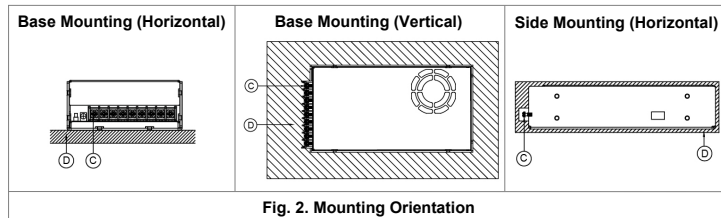
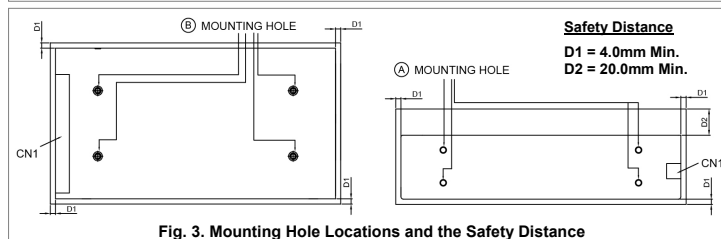

Fig. 2: Mounting Orientation
Fig. 3: Mounting Hole Locations and the Safety Distance
- For safety reasons, please ensure the mounted device is kept at $\geq 4\text{mm}$ safety distance at all sides from other components and equipments. In addition, to ensure sufficient convection cooling, always maintain a distance of $\geq 20\text{mm}$ from fan ventilated surfaces while the device is in operation. Please insert an insulation sheet between the system and product, if the safety distance is $< 4\text{mm}$ (Refer to Fig. 3).
- ① Input & Output terminal block connector
- ② DC voltage adjustment potentiometer
- ③ DC OK control LED (Green)
- ④ AC selectable switch
- (A) Side Mounting: Fig. 2 and Fig. 3 show the mounting hole locations for power supply assembly onto a metal mounting surface. The power supply shall be mounted on minimum of 4 mounting holes using M4 screw of maximum 5mm length (Refer to Fig. 5). This is to maintain a safety distance between the screw and internal components.
- (B) Base Mounting: Fig. 2 and Fig. 3 show the mounting hole locations for power supply assembly onto a metal mounting surface. The power supply shall be mounted on minimum of 4 mounting holes using M4 screw of maximum 4mm length (Refer to Fig. 5). This is to maintain a safety distance between the screw and internal components.
- (C) Fig. 2: Connector
- (D) Fig. 2: This surface belongs to customer's end system or panel where the device is mounted.